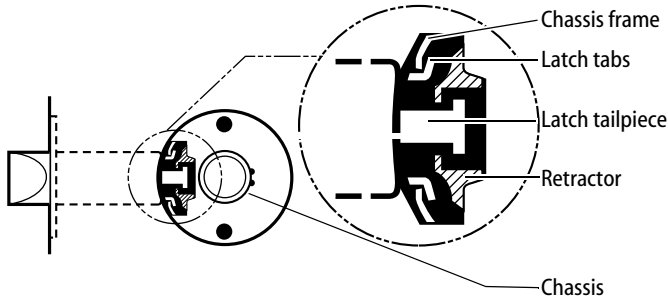

Figure 5 — Engaging the latch and retractor
- With the latch in place, install the chassis from the outside. Make sure the latch tabs engage the chassis frame and the latch tailpiece engages the retractor (see Figure 5).